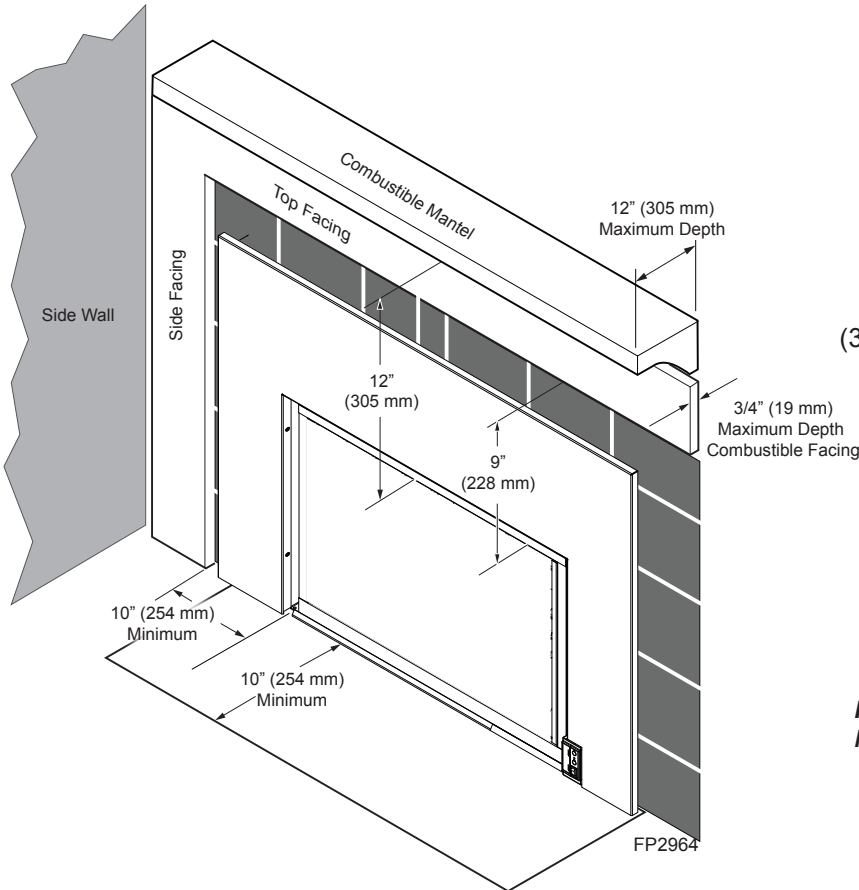

Figure 3 - Mantel Clearances
- Minimum clearances to combustibles, such as mantels, must be maintained. Refer to Pages 8 and 9, Figures 3, 4 and 5.
The dimensions shown on Pages 8 and 9, Figures 3 and 4, are minimum clearances to maintain when installing this heater. Follow these instructions carefully to ensure safe installation. Failure to follow instructions exactly can create a fire hazard.